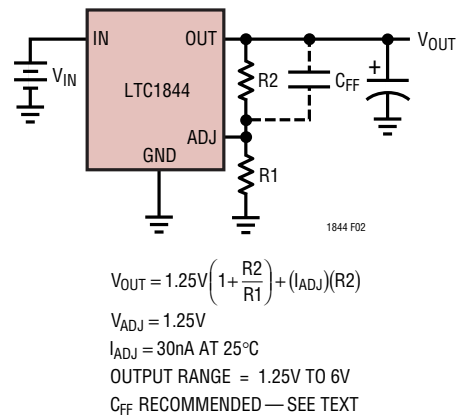

Figure 2. Adjustable Operation
**ADJ (Pin 4, Adjustable Devices):** Output Adjust. For the adjustable versions of the LTC1844, this is the input to the error amplifier. It has a typical bias current of  $30\text{nA}$  flowing into the pin. The ADJ pin reference voltage is  $1.25\text{V}$  referenced to ground. The output voltage range is  $1.25\text{V}$  to  $6\text{V}$  and is typically set by connecting ADJ to a resistor divider from OUT to GND. See Figure 2.
The adjustable version of the LTC1844 has an output voltage range of 1.25V to 6V. The output voltage is set by the ratio of two external resistors as shown in Figure 2. The device servos the output to maintain the ADJ pin voltage at 1.25V (referenced to ground). The current in R1 is then equal to  $1.25V/R1$  and the current in R2 is the current in R1 plus the ADJ pin bias current. The ADJ pin bias current, 30nA at 25°C, flows through R2 into the ADJ pin. The output voltage can be calculated using the formula in Figure 2. The value of R1 should be no greater than  $1M\Omega$  to minimize errors in the output voltage caused by the ADJ pin bias current. Note that in shutdown the output is turned off and the divider current will be zero once  $C_{OUT}$  is discharged.
Because the ADJ pin is relatively high impedance (depending on the resistor divider used), stray capacitance at this pin can introduce significant phase shift in the error amplifier loop. The PCB layout should be designed to absolutely minimize the capacitance seen at the ADJ pin. To ensure stability over all operating conditions when utilizing large divider resistors, a small feedforward capacitor ( $\approx 1000\text{pF}$ ) in parallel with the upper divider resistor ( $C_{\text{FF}}$  in Figure 2) is recommended. As an added bonus, this capacitor will improve transient response.